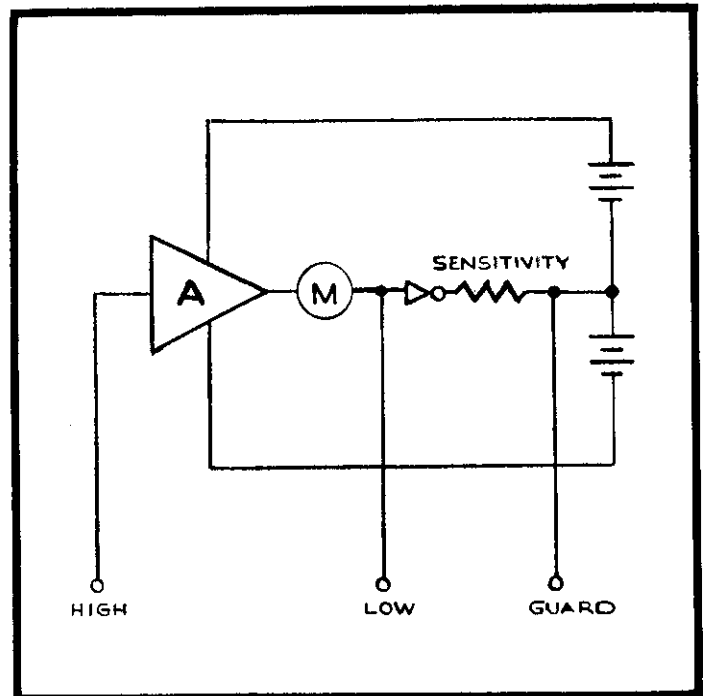

FIGURE 5. Null Detector
2. Circuitry. The guard potential is obtained from the null detector (electrometer) power supply common as illustrated in Figure 5. The potential of the "Driven Guard" is maintained at very nearly the Input High potential with the result that the High to Guard leakage is extremely small at bridge balance. The guard circuit is formed by a metal enclosure and plates which surround the STANDARD resistors, CALIBRATE resistors, the null detector, and the Input terminal.